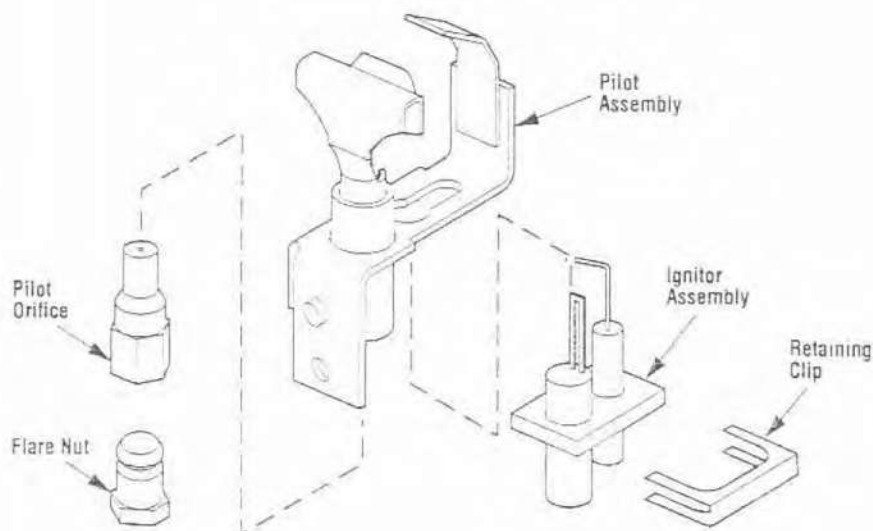

Figure 53
Step 5. Electronic Models - Remove the gas type selector plug and turn it around to show the appropriate gas type and reinstall the selector plug. Gas type in use should be visible on the selector plug when it is installed. Refer to Figure 53 and replace the pilot orifice as follows: Remove the ignitor assembly retainer clip, and carefully remove the ignitor assembly.